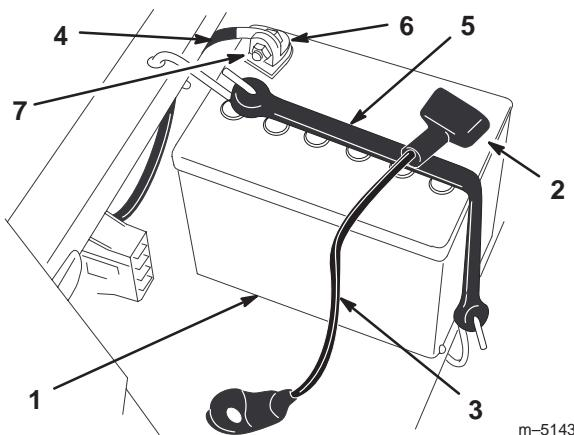

Figure 25
- Disconnect the negative (black) ground cable from the battery post (Fig. 25).
- Slide the rubber cover up the positive (red) cable. Disconnect the positive (red) cable from the battery post (Fig. 25).
- Remove the battery hold-down (Fig. 25) and lift the battery from the battery tray.
- Position the battery in the tray with the terminal posts away from the control panel (Fig. 25).
- Secure the cables with 2 bolts (1/4 x 3/4 inch), washers (1/4 inch), and nuts (1/4 inch) (Fig. 25).
- Secure the battery with the hold-down (Fig. 25).